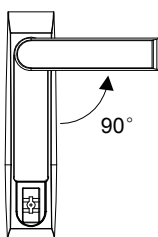

Figure 2-3 Turn the handle
2. Turn the handle counter-clockwise 90°, as shown in Figure 2-3. Pull the handle until the equipment compartment door opens.